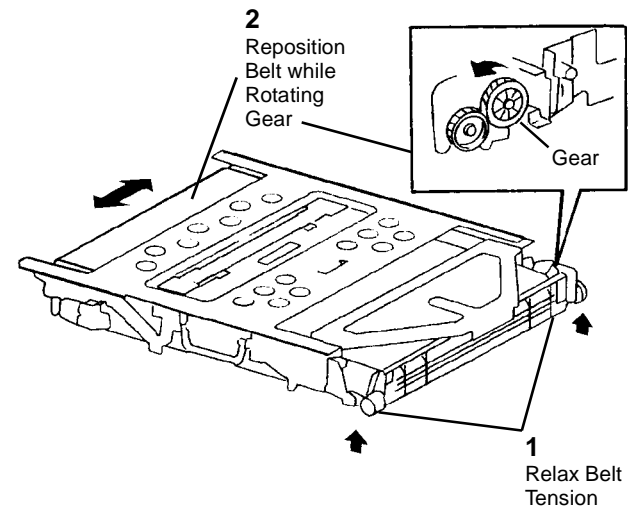

Figure 12 Re-positioning Transfer Belt
3. If Transfer Belt is skewed or wrinkled, perform following steps: (Figure 12).